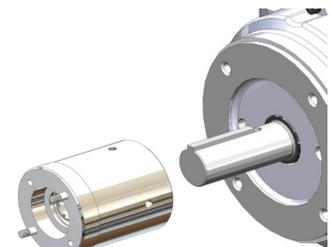

figure 16
3. Remove the two set screws (Item 27) for NEMA frames or shaft bolt for IEC frames. *See figure 16.*